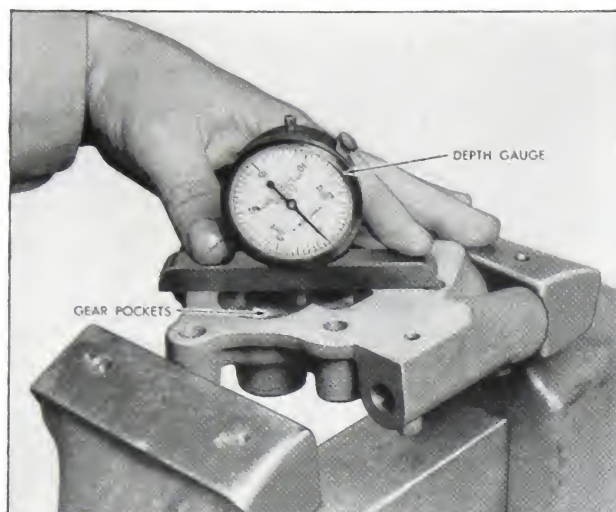

Fig. 5-35. Checking gear pockets
3. The bottom of the gear pockets must be smooth and uniform in depth—clear to the edge. Use a dial indicator depth gauge to measure gear pocket depth, Fig. 5-35. When the gears are